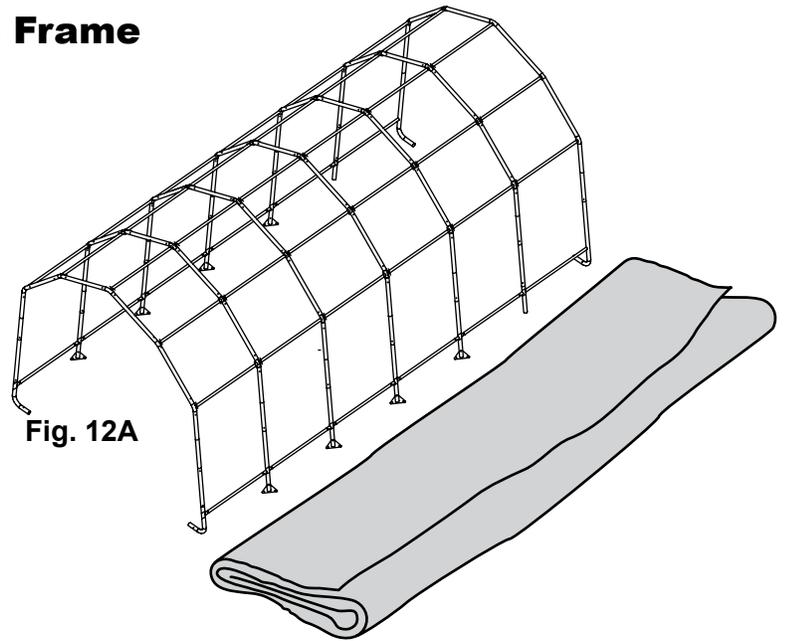

Fig. 12A
1. Lay the cover on the ground next to the frame with the inside of the cover (the side with the pipe pockets) facing down and the webbing on the front and rear of the corner of the building. Position the cover so that it is centered on the frame, front to back. Fig 12A